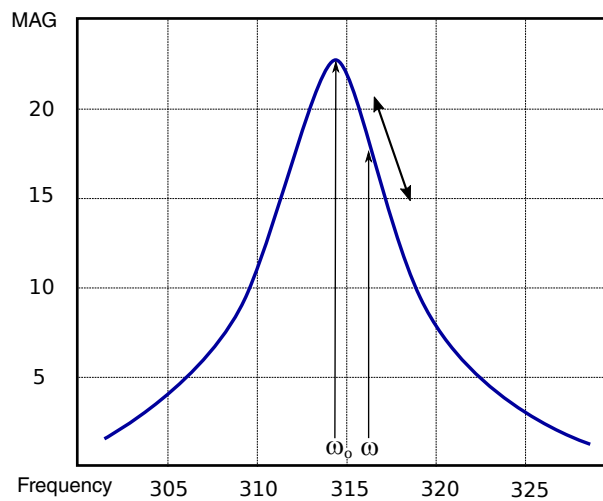

Figure 7: The frequency response of a NC-mode cantilever.
The cantilever has a frequency dependent oscillation amplitude (see figure 7) with a resonant frequency given by:
**Question 27** In practice the AFM operates by measuring the change in amplitude rather than directly measuring the change in frequency (this is magnitude slope detection). Re-examining figure 7, at what oscillation frequency would you expect to give the best resolution?
It is necessary to point out that the curve in figure 7 is a steady-state curve, and only after a sufficient time will the vibration amplitude settle on a new steady-state value,  $\omega'$ . The following equation can be used to calculate the response of the oscillating mechanical system in terms of a time-constant,  $\tau$  which will limit the available bandwidth.